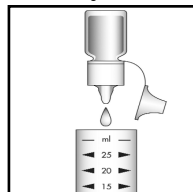

Figure 2
2. Add 5 drops of A-9600 Neutralizer Solution (fig. 2). Stir to mix the contents of the cup. Wait **30 seconds**.